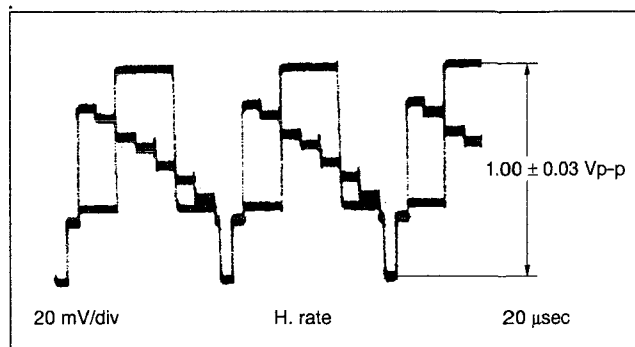

Fig. 3-3-3 EE Y level
- (1) Connect an oscilloscope to Y OUT TERMINAL.
- (2) Set the EVR mode by transmitting a data code "57" with the Jig RCU.
- (3) Set "A : 11" by twice pressing 1 button of the remote controller.
- (4) Adjust the CH "+" or "-" buttons for 1.00 ± 0.03 Vp-p. (See Fig. 3-3-3.)
- (5) Set the normal VCR mode by transmitting the data code "57" with the Jig RCU again so adjustment data is memorized.